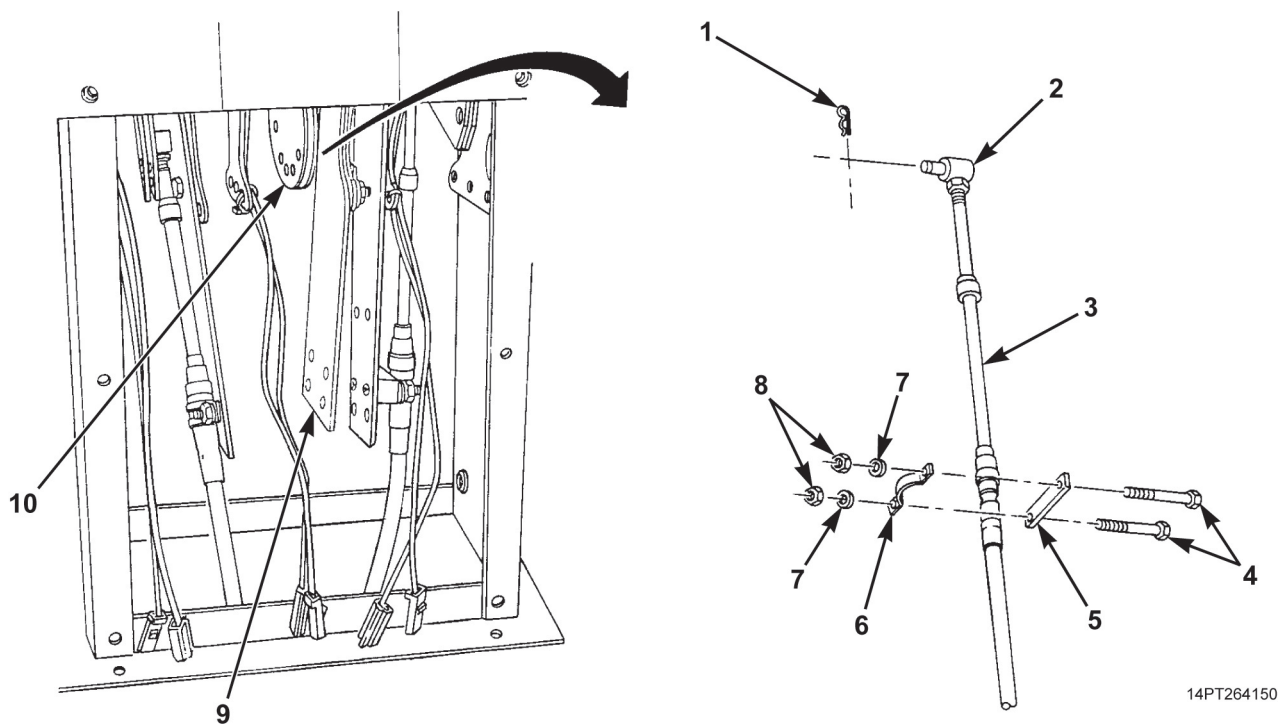

Figure 4. Transfer Case Shift Cable and Components Removal.
10. Tag transfer case shift cable (Figure 4, Item 3).
11. Remove two nuts (Figure 4, Item 8), washers (Figure 4, Item 7), screws (Figure 4, Item 4), clamp (Figure 4, Item 6), and spacer (Figure 4, Item 5) from bracket (Figure 4, Item 9).
12. Remove retaining pin (Figure 4, Item 1) from pivot pin (Figure 4, Item 2) and pivot pin from bracket (Figure 4, Item 10).